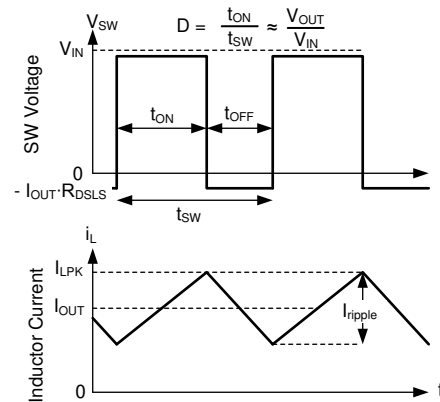

图 8-14. SW Voltage and Inductor Current Waveforms in Continuous Conduction Mode (CCM)
The following operating description of the LM61435-Q1 refers to セクション 8.2 and to the waveforms in 図 8-14. In CCM, the LM61435-Q1 supplies a regulated output voltage by turning on the internal high-side (HS) and low-side (LS) NMOS switches with varying duty cycle (D). During the HS switch on-time, the SW pin voltage, V_{SW} , swings up to approximately V_{IN} , and the inductor current, i_L , increases with a linear slope. The HS switch is turned off by the control logic. During the HS switch off-time, t_{OFF} , the LS switch is turned on. Inductor current discharges through the LS switch, which forces the V_{SW} to swing below ground by the voltage drop across the LS switch. The converter loop adjusts the duty cycle to maintain a constant output voltage. D is defined by the on-time of the HS switch over the switching period: